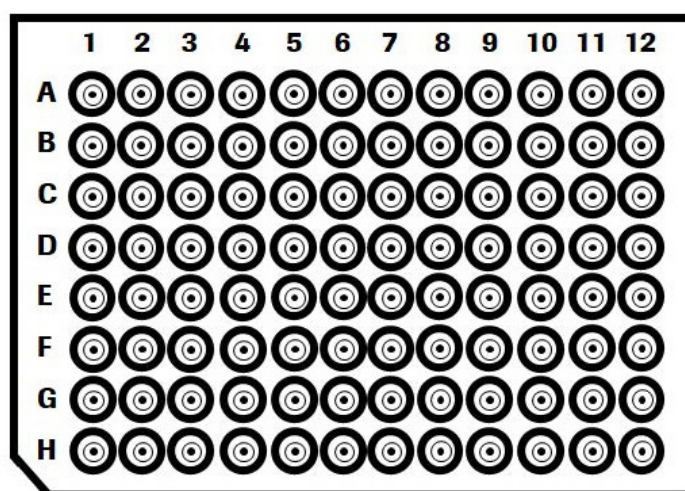

Fig. 2 KAPA UDI Primer Mixes plate layout
1. Before removing the foil cover, ensure the plate is in the correct orientation before proceeding. In order to have well position A1 on the top left corner, the notched corner must be facing the user on the bottom left, as shown in Figure 2.